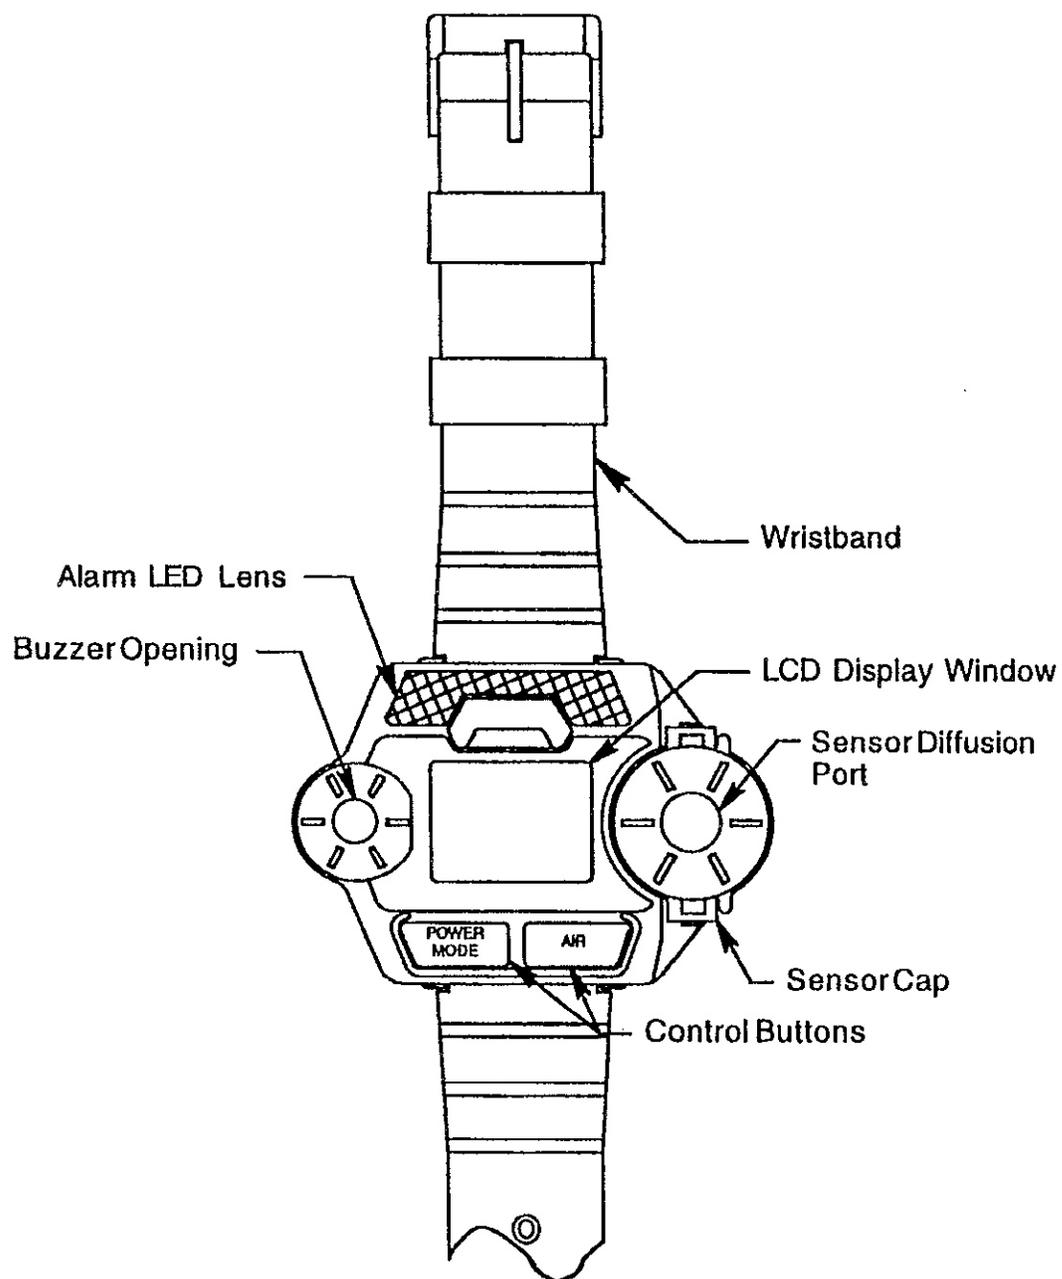

Figure 1: Components of the GasWatch 2
- 5.1.1. In a fresh air environment turn on the GasWatch2 by pressing and holding the POWER/MODE button, fig. 1, for one second.